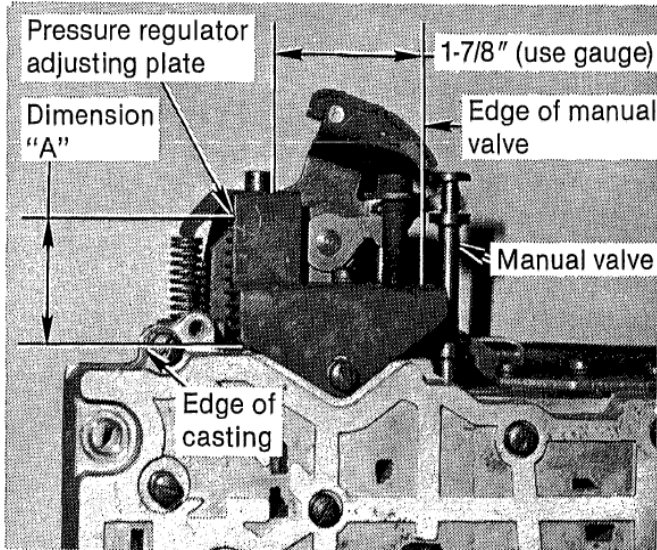

FIGURE 12
STEP 13. Tighten fourteen screws attaching transfer plate to casting on the bottom of the valve body to 35in. lbs. Tighten all end plate screws to 35in. lbs. Adjust pressure regulator spring retainer from side to side until the distance from the manual valve to the adjusting screw is 1-7/8". Use the gauge supplied to check this measurement. (See Fig. 12) Tighten three short retaining screws to 35in. lbs. At this point all screws should be tight. NOTE: Adjustments are the same for large cage models.
STEP 14. Pressure regulator adjustment: Use the gauge to adjust the distance from the casting face to the inside edge of the pressure regulator spring adjusting plate. (See Fig. 12) Use a 3/16" Allen wrench to adjust the plate to dimensions shown: